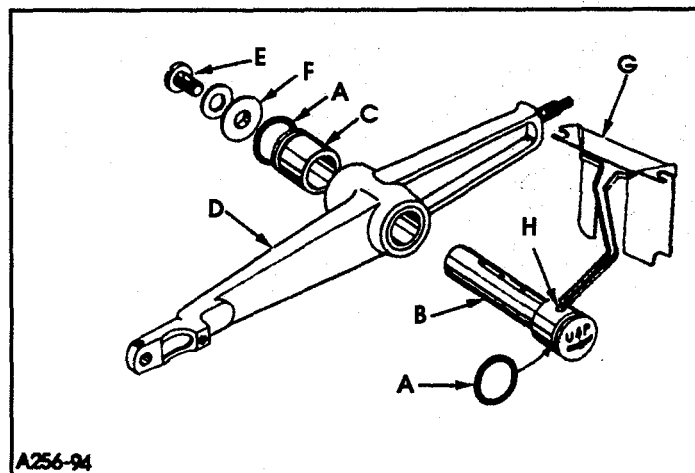
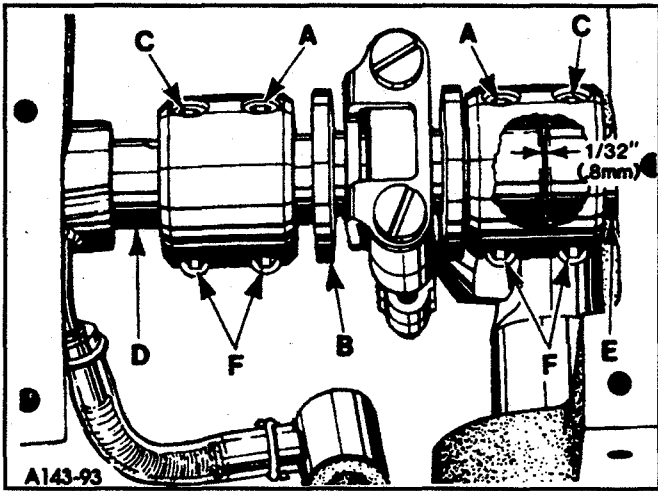
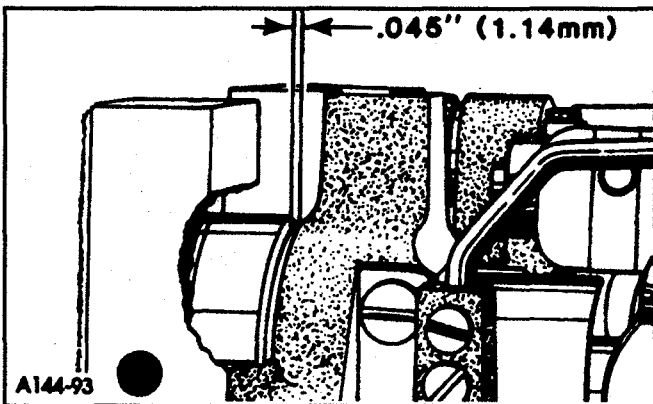

FIG. 29
FIG. 30
FIG. 31
Install "O" rings (A, Fig 29) onto needle lever stud (B) and thrust collar (C).
As viewed looking down from rear of machine, spot screws (A, Fig. 30) in the couplings must align with the spots in the looper drive crank (B) and set screws (C) must align with the flats on crankshaft (D) and MAIN SHAFT (E). Main shaft must be positioned laterally with .045" (1.14mm) clearance between the right side of its head and the bed casting as shown in (Fig. 31).
Looper drive crank (B, Fig. 30) must be positioned laterally with 1/32" (.8mm) clearance between it and main shaft (E) as shown in (Fig. 29). Once these settings are made, it is very important that the couplings are tightened in the following sequence for best performance.